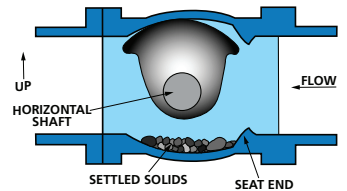
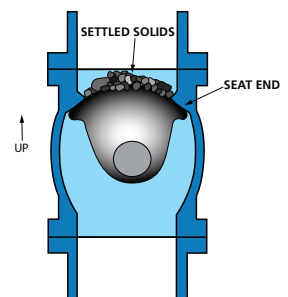

Figure 6. Horizontal Pipe w/Solids
Figure 7. Vertical Pipe with Solids
**SUSPENDED SOLIDS SERVICE:** For fluids containing suspended solids, special orientations are needed to prevent debris from collecting in the valve. For horizontal installations (Figure 6), the valve should be installed with the flow entering the seat end of the valve and the shaft in a horizontal position with the plug up when open. For vertical installations (Figure 7), the valve must be installed with the seat end up regardless of flow direction.